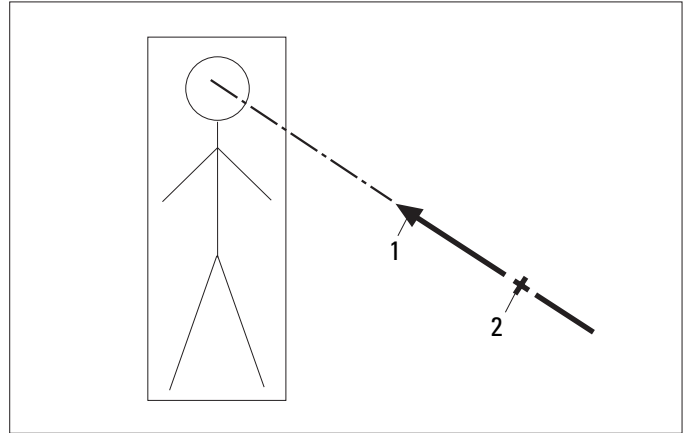

Fig. 1
⇒ Mark out the center (2) of the mounting bracket or of the ceiling plate and the alignment axis (main axis) (1) in accordance with the building plan on the ceiling (Figures 1 and 2).